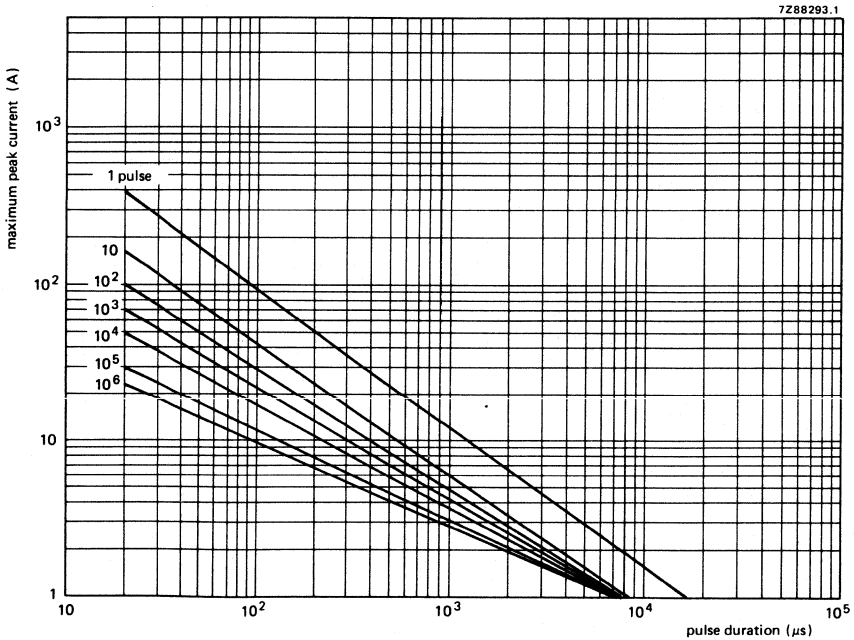

Fig. 3 Max. applicable transient current as a function of pulse duration.
5. A current impulse of 8/20  $\mu\text{s}$  (defined in IEC 60-2 section 6) is used as a standard for impulse current and clamping voltage ratings. The transient energy is given for one impulse applied during the life of the component. Figure 3 gives the derating for different numbers and longer duration of impulses. The shift of the varistor voltage does not exceed  $\pm 5\%$ .